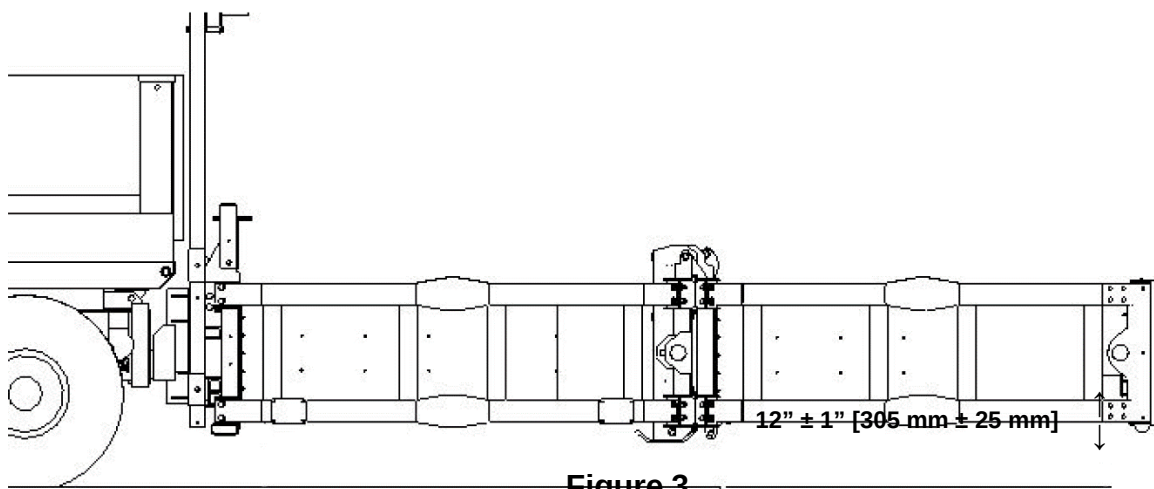

Figure 3
1. The SS180® M shall be rigidly fastened to the truck. In the horizontal position, the bottom of the TMA shall be 11" to 13" [280 to 330 mm] from the ground to the bottom of the Rear Impact Face (Figure 3).